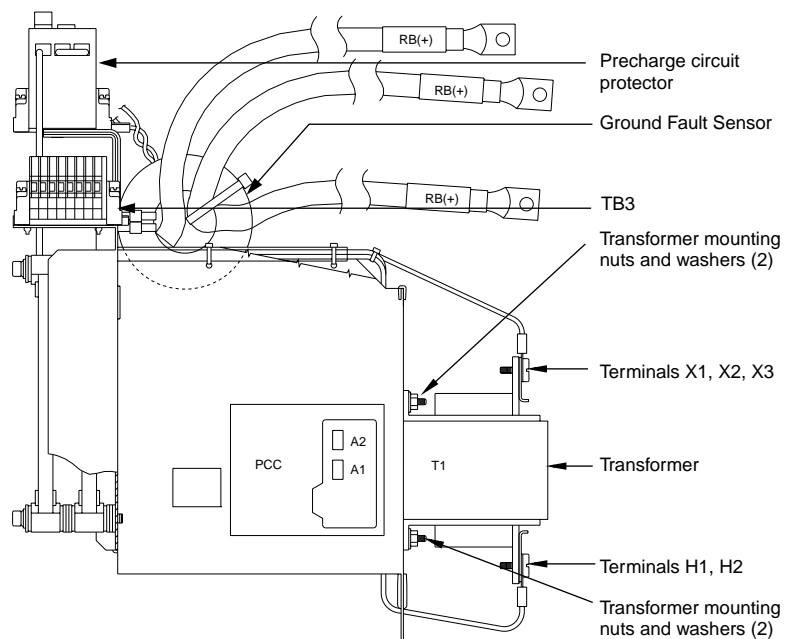

Figure 4.1.31: Transformer/Contactor Assembly, Side View
7. Using a flat blade screw driver, loosen and remove the screws for the T1-X1, T1-X2, T1-X3, T1-H1, and T1-H2 connections on the control power transformer (see Figure 4.1.31).
8. Using a drive socket, loosen and remove the four transformer mounting nuts and washers. Remove the transformer (see Figure 4.1.31).
1. Mount the control power transformer on the back on the transformer/contactor assembly (see Figure 4.1.31). Orient the transformer such that the X1, X2, and X3 transformer terminals are facing the top of the transformer/contactor assembly.